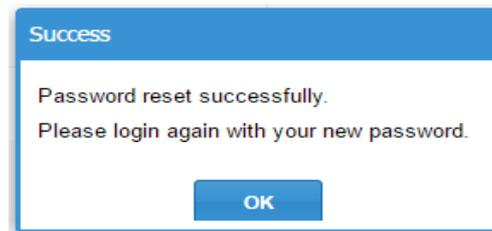

Figure 78 Password reset successfully message
3. When you are done entering the required information, click **Submit**. A confirmation message appears, as shown in Figure 78.